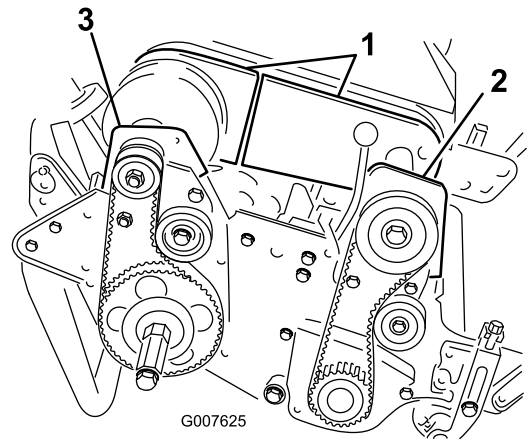

Figure 35
6. Remove the 2 bolts and locknuts securing the front clutch housing to the side plate (Figure 35).
8. Remove the 2 bolts and locknuts securing the right rear bearing housing to the side plate (Figure 35).
4. Remove the bolts securing the front and rear sections of the differential cover to the differential housing and slide the cover sections away to expose the belt (Figure 35).